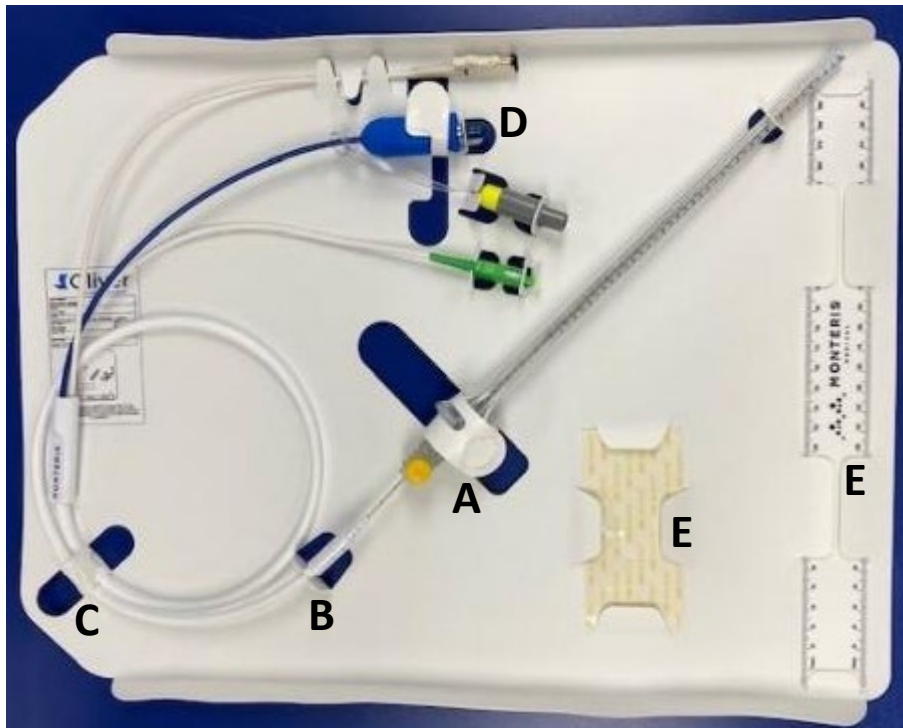

Figure 8.6 A-D: Removing the 1.6 mm LDP from the Sterile Tray
- Lift up to open the 3 card straps at the A, C and D positions (Figure 8.6)